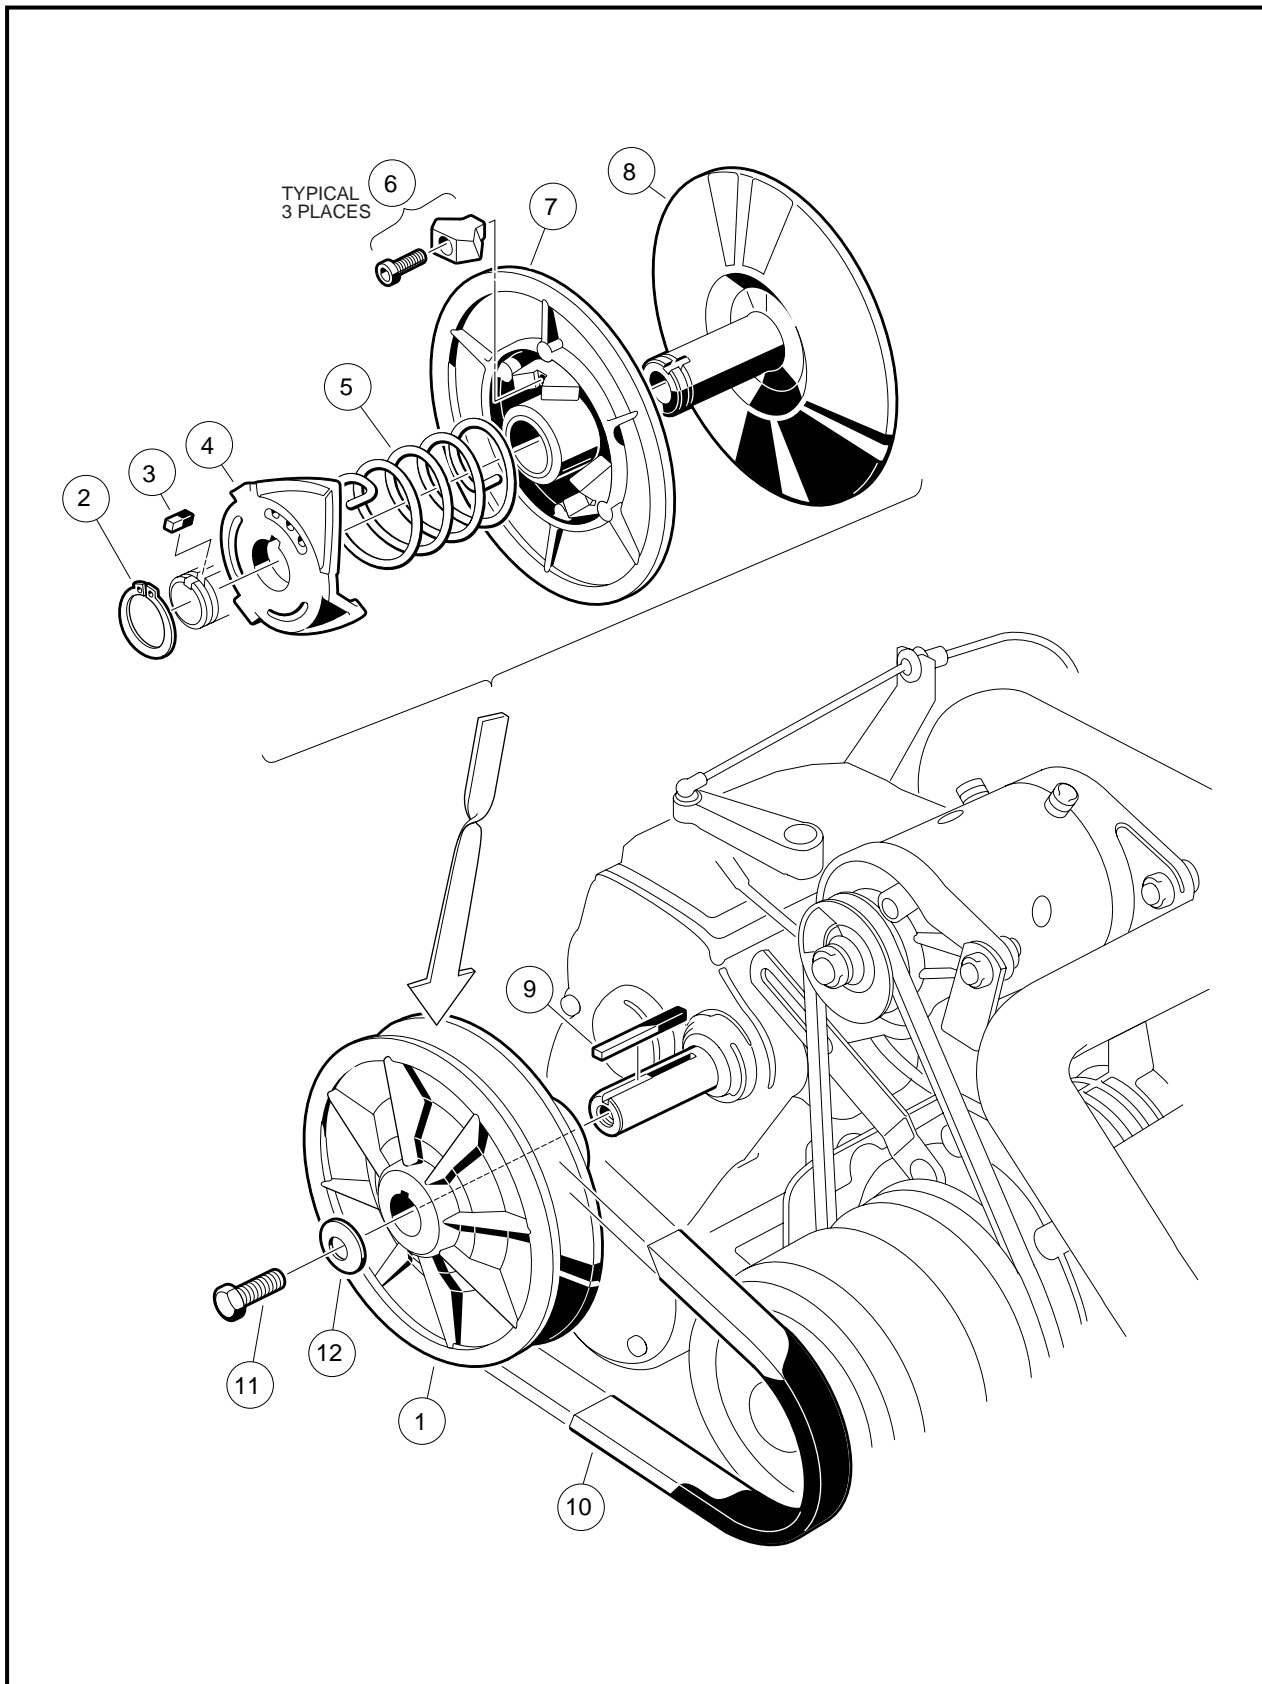
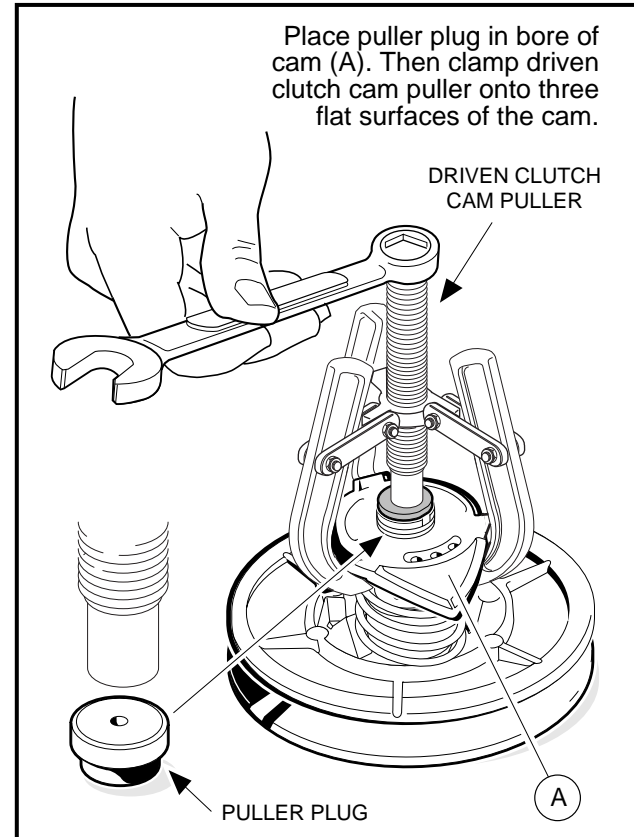
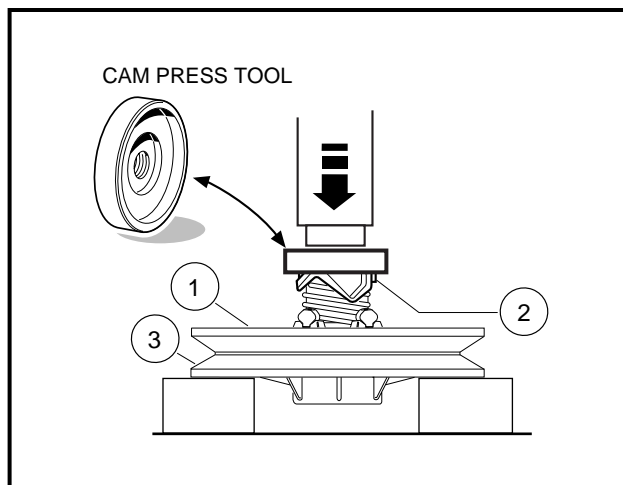

Figure 17-16 Driven Clutch Assembly
Figure 17-18 Driven Clutch Disassembly
Figure 17-19 Cam Press Tool
2. Remove the bolt (11) and mounting washer (12) from the clutch shaft (**Figure 17-16, Page 17-12**).
4. Leave the key (9) in the keyway (**Figure 17-16, Page 17-12**).
2. Insert a puller plug (CCI 1014507) (**Figure 17-18, Page 17-14**) into the shaft bore and use a driven clutch cam puller (CCI 1014508) to remove the cam (4) from the fixed face shaft (8) (**Figure 17-16, Page 17-12**).
3. Remove the spring (5) (**Figure 17-16, Page 17-12**).
4. Retain the key (3).
5. Slide the moveable face (7) off the fixed face shaft (8) (**Figure 17-16, Page 17-12**).
1. Inspect the cam (4) for excessive wear. Replace it if necessary (**Figure 17-16, Page 17-12**).
2. Inspect the drive buttons (6) for excessive wear. Replace if necessary. To remove the drive buttons, remove the socket head cap screws and then the buttons (**Figure 17-16, Page 17-12**).
1. Place the three drive buttons (6) in position. Apply one drop of Loctite® 222 to each of the socket head cap screws and then install and tighten them to 8 in-lb (0.9 N·m) (**Figure 17-16, Page 17-12**).
2. Slide the moveable face assembly (7) onto the fixed face shaft (8).
3. Place the end of the spring (5) into the hole in the moveable face assembly.
4. Install the key (3) into the keyway of the fixed face assembly (8) shaft.
5. Holding the cam (4) in position for assembly on the shaft, install the other end of the spring (5) into the center spring hole of the cam. Rotate the cam until the keyway is aligned with the key (3) on the fixed face assembly, and then start the cam onto the shaft approximately 1/4 to 3/8 inch (6.3 to 9.5 mm).
6. Place the clutch assembly in a press and position the cam press tool (CCI 101809101) on the cam as shown (**Figure 17-19, Page 17-15**).
7. Hold the fixed face assembly (3) and rotate the moveable face assembly (1) one-third turn **clockwise**, then press the cam (2) onto the fixed face assembly (**Figure 17-19, Page 17-15**).
8. Install the retaining ring (2) (**Figure 17-16, Page 17-12**). **See following NOTE.**
1. To install the driven clutch, reverse the removal procedure. Before tightening the center bolt (11) to 14 ft-lb (19.0 N·m), make sure the mounting washer (12) is installed between the center bolt and the clutch (yellow side facing out) (**Figure 17-16, Page 17-12**).